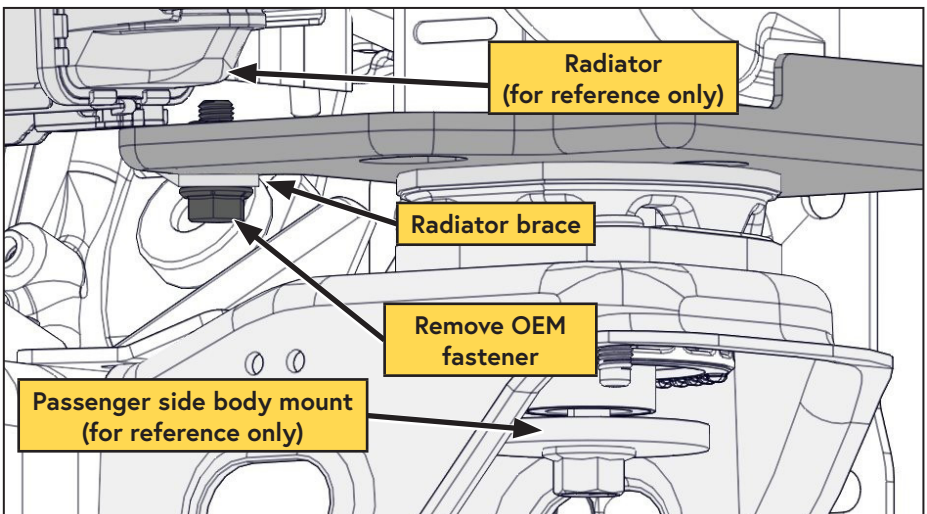

Figure 29 — Remove OEM fastener
- ☐ Remove the OEM fastener securing the radiator brace and set it aside (Figure 29).